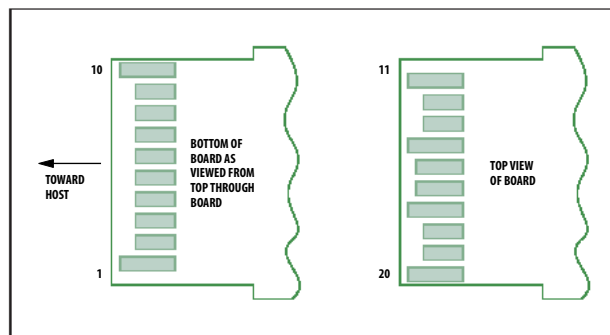

Figure 2. Module edge connector contacts
The AFBR-2CARxxZ interfaces with the host circuit board through the twenty contact SFP+ electrical connector. See Table 2 for contact descriptions. The device edge connector is shown in Figure 2.
2. This is an open collector/drain output that on the host board requires a 4.7 kΩ to 10 kΩ pullup resistor to VccHost. See Figure 2.